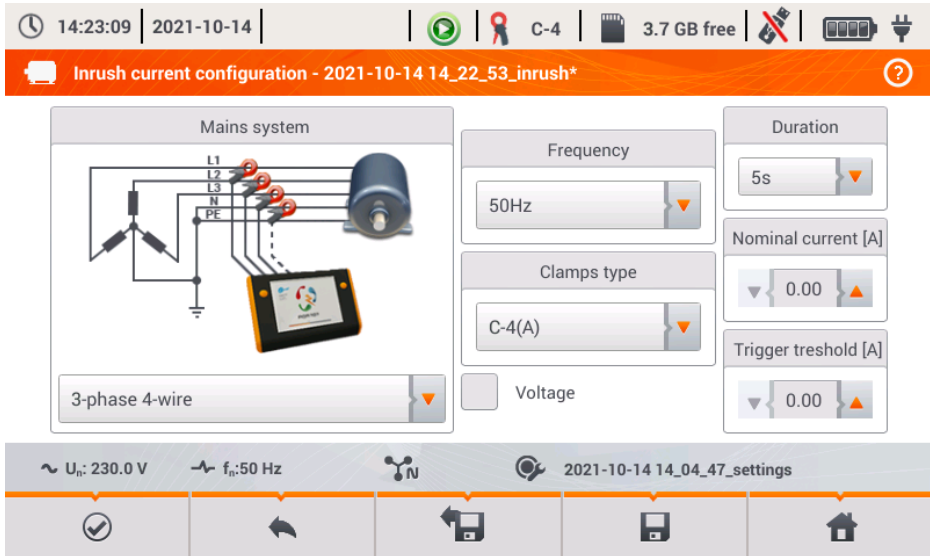

Fig. 39. Inrush current configuration screen.
After selecting in main menu the option of **INRUSH CURRENT** the screen shown in Fig. 39 is displayed.
- entering the list of saved configurations of inrush current and creating a new configuration. Configurations of the inrush current are presented similarly as the measuring configurations (see Fig. 4), they have their own icon . Double-click on a selected configuration will open it automatically and the inrush current configuration screen (Fig. 39). The button in the menu bar -  is used for adding new configurations starting of the inrush current (a window is displayed, as shown in Fig. 39 with default settings). Icon  is used to edit the chosen configuration of the inrush current.